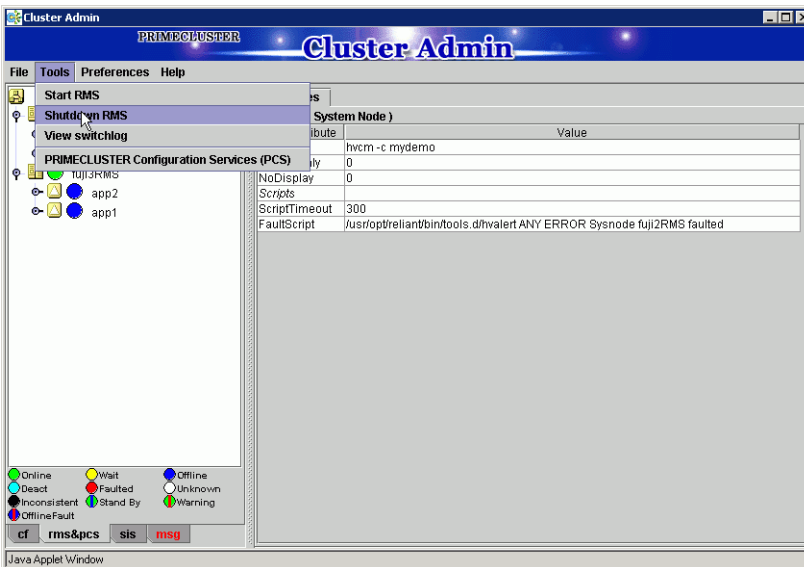

Figure 101: Stopping RMS
1. Use the *Tools* pull-down menu, or right-click on a system node, and select the mode of shutdown in the subsequent option screen (Figure 101).